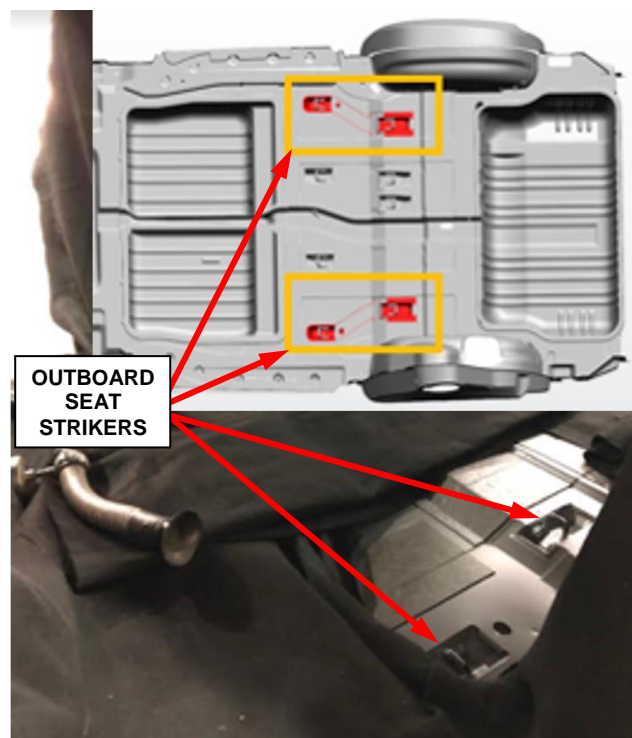

Figure 16 – Protect Interior Surfaces – Leave Outboard Seat Strikers Exposed
51. Protect the vehicle interior surfaces with flame retardant blankets. Leave only the outboard seat striker work area exposed (Figure 16).